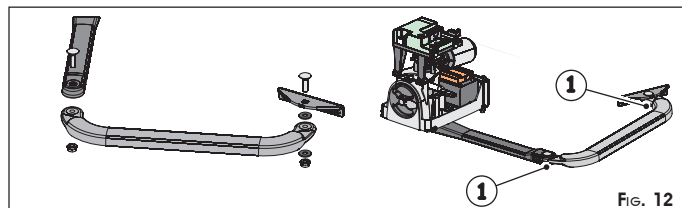

FIG. 12
- ⑦ Assemble the rest of the arm as illustrated in Fig.12.
- For correct operation, tighten the two securing screws (Fig.12 ref.①) and then loosen them by about 1/2 turn to enable rotation without any friction on the arms.